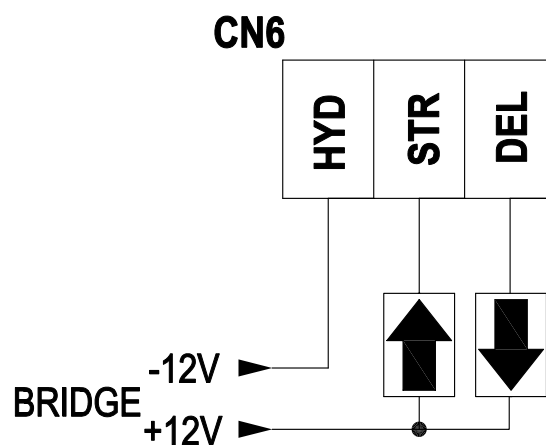

Figure 13.0 -XC-DUP-8 Arrow Signals Connections
The terminals of the Arrows (up and down) are connected as illustrated in Figure 13.0.
- Figure 13.0 illustrates the installation and wiring of the Arrow Signals in case of not applying the hydraulic functionality.